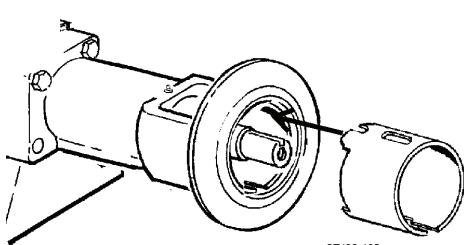

Figure 59 - Installing the Guard
9. Install and position the seal guard. See Figure 59.